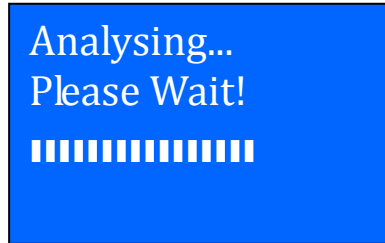

Figure 37
10. Now you need to press  key to proceed and the display will show as follows (Figure 37).